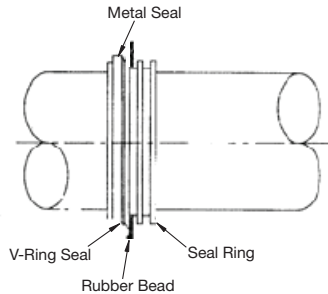

Figure 6
DROP-IN TRIPLE TECT seals are preassembled at the factory. The DROP-IN TRIPLE TECT seal assembly consists of a seal ring, V-ring seal and metal seal with rubber bead (Figure 6).
1. Slide one of the DROP-IN TRIPLE TECT seal assemblies on shaft to the proper location for assembly into the housing. The lip of the V-ring seal must face the bearing (Figure 6).